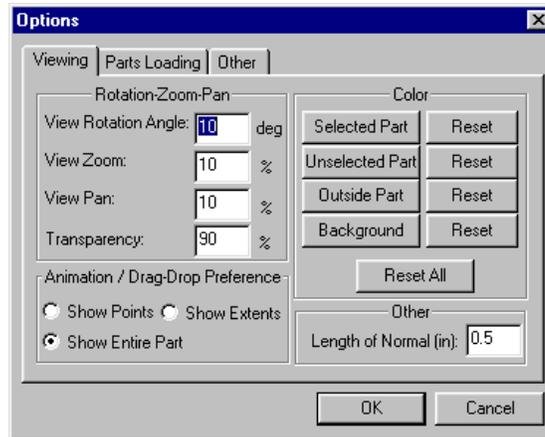

Figure 118. Options Dialog Box
2. Choose “**O**ptions”. This will bring up the “Options” dialog (Figure 118).